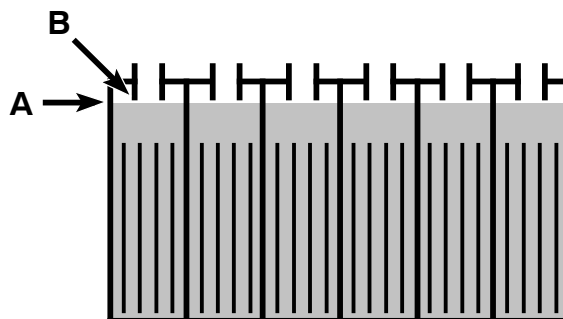

FIG. 23
8. After charging, check the electrolyte level (A) again. The level should be approximately 1 cm (.375 in) from the bottom of the fill-port (B) (Figure 23). Add distilled water if needed. DO NOT OVERFILL.